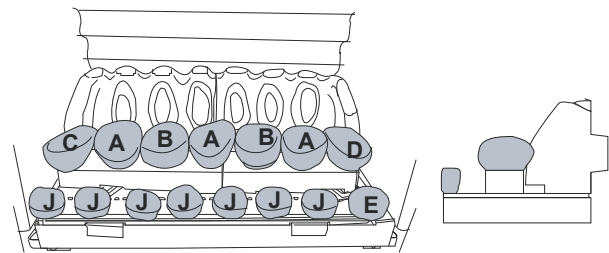

Figure 27
4. Insert the J & E pebbles centrally onto the spikes and place the A & B pebbles on the middle matrix ensuring the same orientation as shown in **Figure 27**.